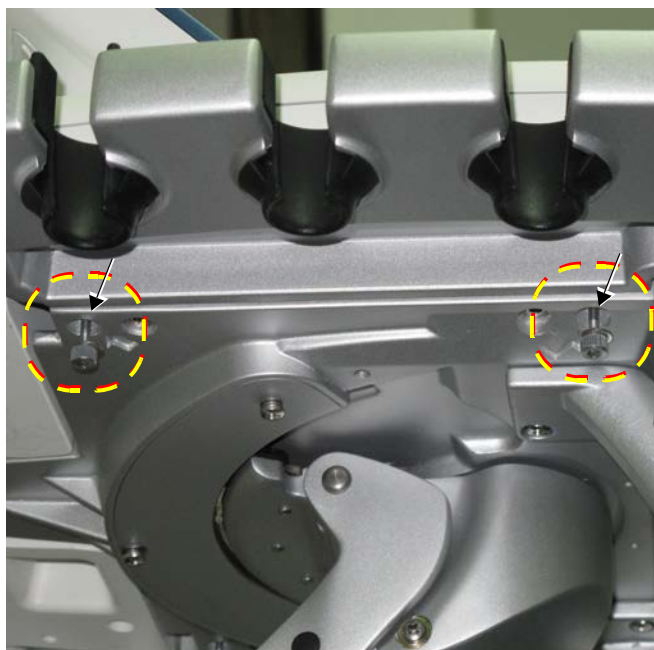

Figure 8-49 Removing the Allen Screws under Keyboard Assembly - Right Side
- 3) Working from beneath the keyboard assembly, loosen the two Allen screws on the system's *right* side (arrows marked in the figure indicate the screw locations) as shown in Figure 8-49 below.